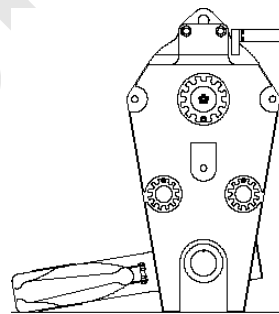

FIGURE 4-43
- #140 Fixed Jib on #133 or 133A Luffing Jib. See Figure 4-43 for recommended reeving.
The universal anchor joint on the #140 jib point (Figure 4-43) provides an alternate dead end location for 2-part reeving. The anchor joint swivels in both directions to prevent bending loads. Its location in the jib point minimizes twisting of the load line.